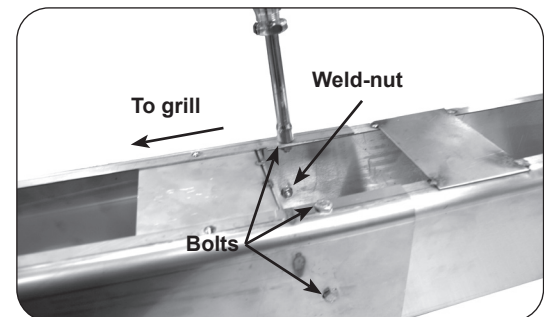

Fig. 28-2 Fasten extension to post
2. From outside the joined post and extension, insert one of the $\frac{1}{4}$ X 20"-5/8 bolts (supplied) into each of the five (5) bolt holes and tighten each using a $\frac{7}{16}$ " socket driver or wrench (see Fig. 28-2).